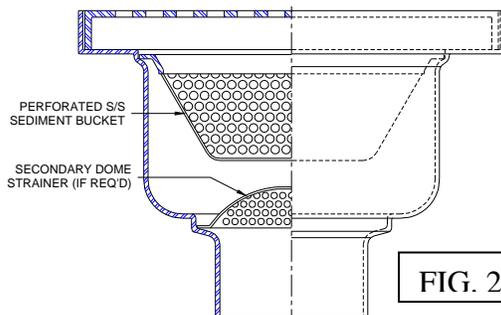
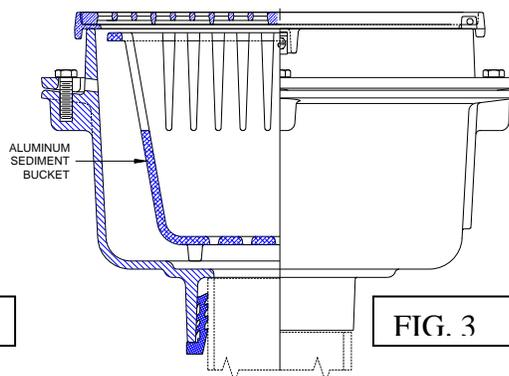

FIG. 2
FIG. 3
**Dome and Flat Bottom Strainers: Dome Type** (Fig. 2) is preferred because their hemispherical design greatly reduces splashing and the large free area prevents clogging, and assures maximum flow. **Flat Type** are recommended only when a bottom strainer is required for installation in A.R.C. models beneath aluminum buckets where there is insufficient clearance to utilize the dome type. This optional bottom strainer protects the waste line when bucket is removed.
**Perforated or Slotted Sediment Buckets:** Both are suitable for normal installations to intercept and retain foreign materials and solids such as bones, pits, scrap, peelings and other commonly encountered debris. Perforated buckets (Fig. 2) are regularly furnished with stainless steel models, and slotted buckets (Fig. 3) with A.R.E. models. Perforated models have 1/4" round holes on 1/2" centers and will provide superior solids retention.